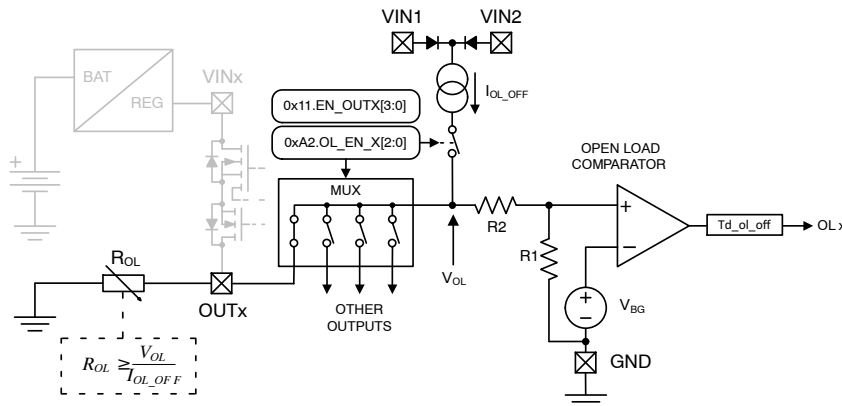

Figure 24. Off-state Open Load (OL) Detection Block
An off-state open load (OL) diagnostic augments the embedded current sense ADC. The diagnostic is implemented using a single current source and voltage comparator detection block along with a multiplexer. The detection block is routed to one of the four outputs via the 0xA2/R3 CONFIGURATION 2 register’s OL_EN_x[2:0] bits. Figure 24 shows the basic open load diagnostic topology.